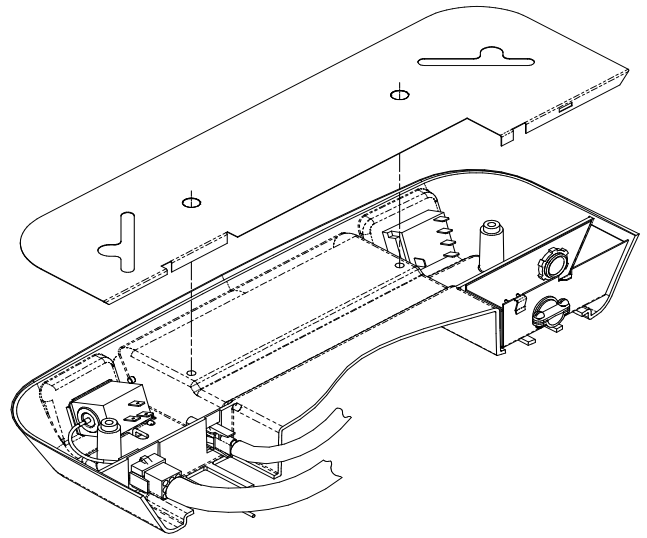

FIGURE 7
Plug the heater cord into the 2 position receptacle (See Figure 7).
- E. Plug the roof top air conditioner electrical conduit into the 9 position receptacle located in the thermostat side of the ceiling assembly (See Figure 7).
H. Place the metal control box shield over the thermostat, switch and field wiring boxes. Make certain that all wires are pushed into the control boxes or laying in the wireway between the thermostat and switch boxes and will not be pinched by the control box shield. Control box shield is properly installed when the two holes in the shield are aligned with the two screw holes in the ceiling assembly chute (See Figure 7).
J. The ceiling assembly shroud is curved to contour to a crowned ceiling. If installation is to a flat ceiling and gaps are present on the sides of the shroud, insert the four optional 3/4 inch screws (provided) through the mounting posts and secure them to the mounting frame above (See Figure 7, 8 & 9 for screw locations).